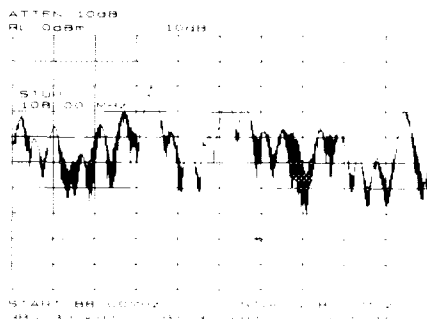

Fig. 2.4. Spectrum analyzer tuned to sweep the FM band.
1. Connect an antenna to the spectrum analyzer input. Select a frequency range on the spectrum analyzer, such as the range for FM radio broadcasts (76 MHz - 108 MHz*). Press **FREQUENCY** and the softkey **START**, then key in **88 MHz**. Press the softkey **STOP** and key in **108 MHz** (see Figure 2.4).